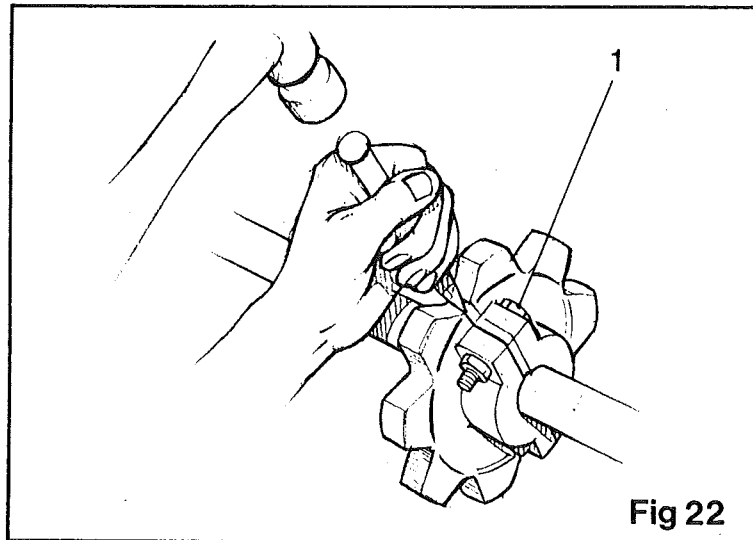

Fig 22
1. Loosen the fixing bolts (item 1 fig 22) and remove.
2. Using a hammer and chisel, split the sprocket along the groove provided (fig 22).
2. Split the sprocket with a hammer and chisel in the groove provided (fig 22).
3. Locate both halves on the shaft and secure using the fixing bolts (item 1 fig 22).